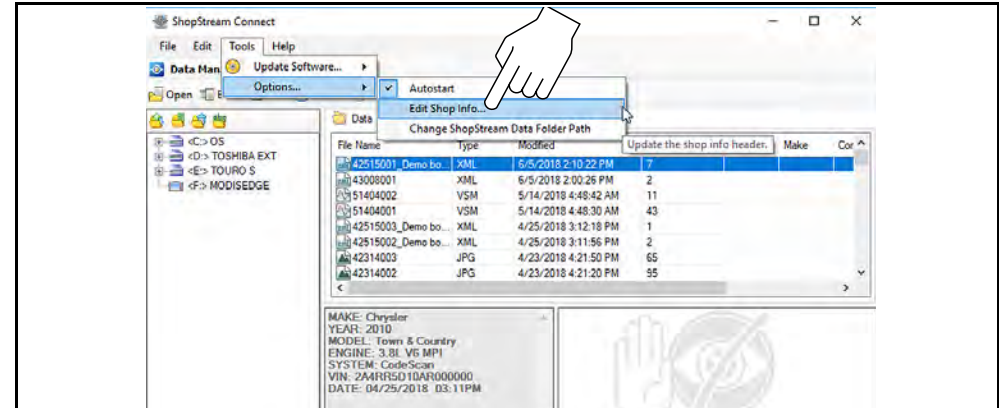

Figure 16-9
1. From ShopStream Connect, select **Tools > Options > Edit Shop Info** (Figure 16-9).